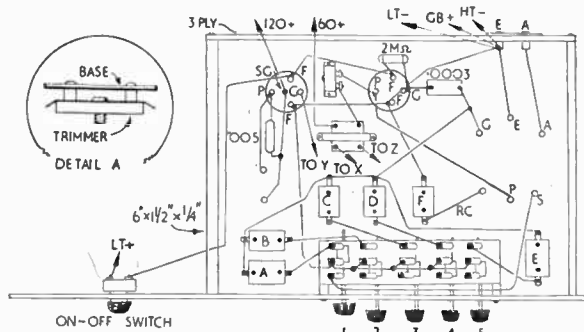

Fig. 3—Underneath wiring plan
All the pre-sets are mounted with spacing bushes below the chassis, as shown in detail (A), Fig. 3. This enables